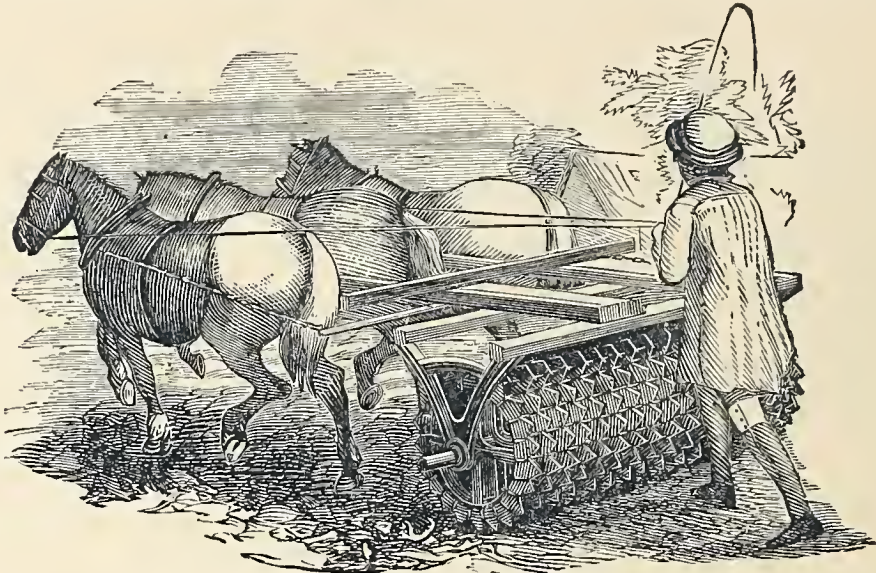

Fig. 343.—Crosskill's Clod-Crusher.
*Crosskill's Clod-Crusher and Pulverizer*, of which we present an illustration at *Fig. 343*, an English machine, is made like an ordinary roller in sections with the following differences: Each section is but three inches wide, and they are kept from touching each other by washers on the main shaft. Each alternate section